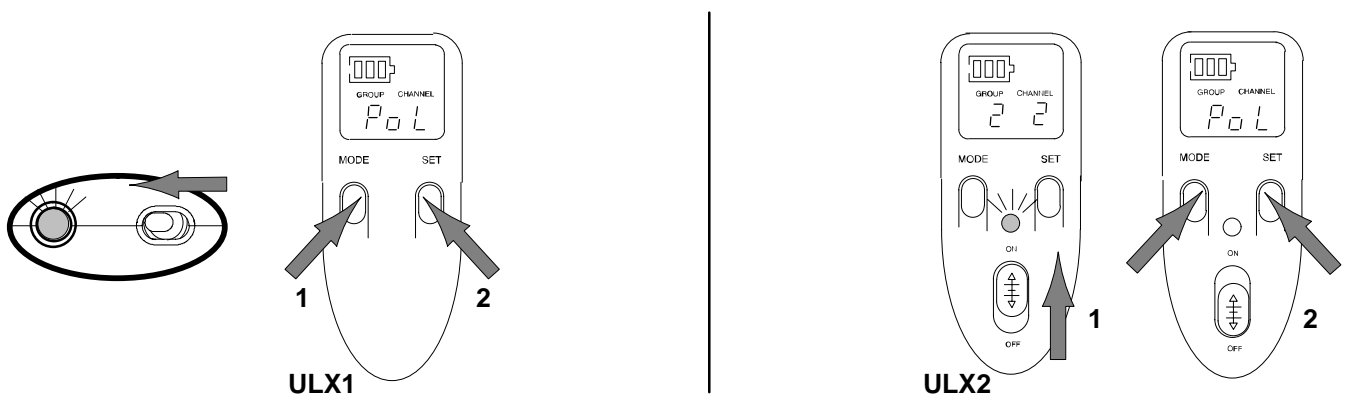

FIGURE 34
2. While holding down the SET button, press and hold the MODE button until "Po L" appears on the display. See Figure 34. This display indicates that the Power On/Off switch is locked. The transmitter will remain on, even when the power ON/OFF switch is moved to the OFF position.